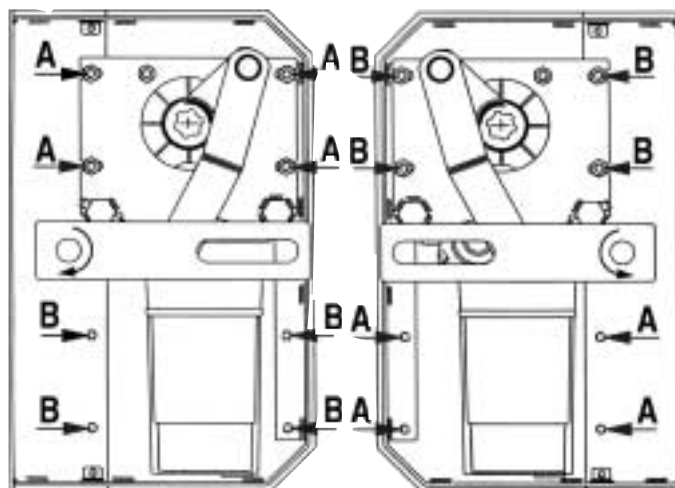

Fig. 15
- Lift the cover from the box, isolate the motor from the power supply by disconnecting the cable, then remove the curved lever: the gate can now swing freely (Fig.15-A/B).